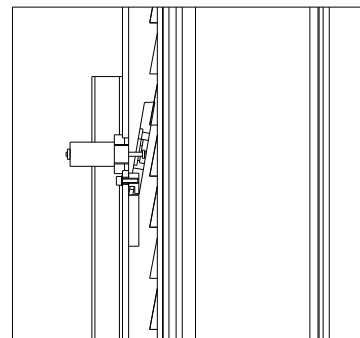

Fig.18
5. If the hydraulic cylinder breaks, the safety wedges will trip (Fig.18), located inside the posts.